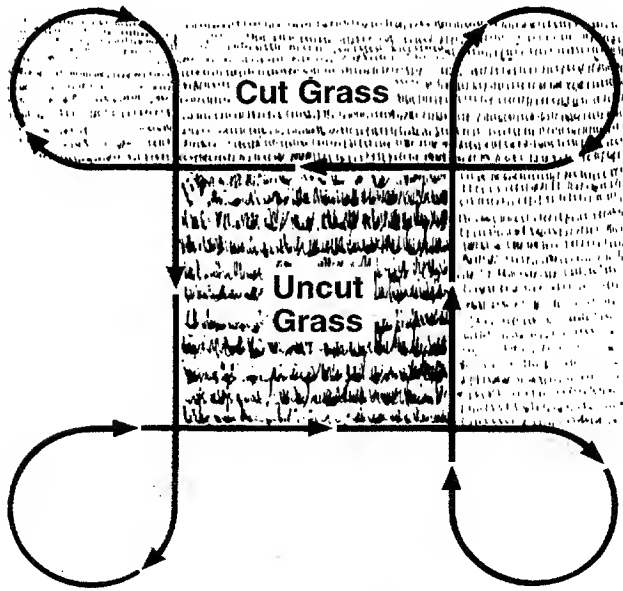

Figure 13
When removing the blades, use a 1-1/8 inch wrench to hold the hex head or the spindle bolt when loosening the hex nut securing the blade. A block of wood may be placed between the deck housing and the cutting edge of the blade to assist in removal of the hex nut securing the blade (Refer to Figure 13). After replacing the blades, apply grease to the exposed threads at the bottom of the spindle bolts to prevent rust buildup.
4. Follow the mowing pattern shown in Figure 13.